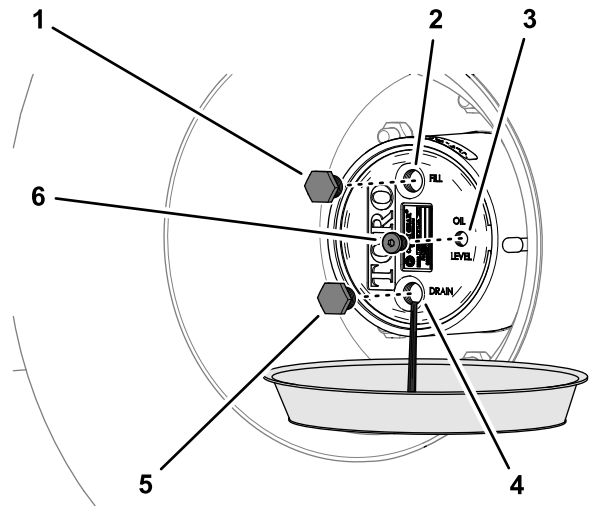

Figure 86
2. Place a drain pan under the hub of the planetary-gear drive, remove the drain plug, fill plug, and the check plug, and allow the oil to drain completely (Figure 86).